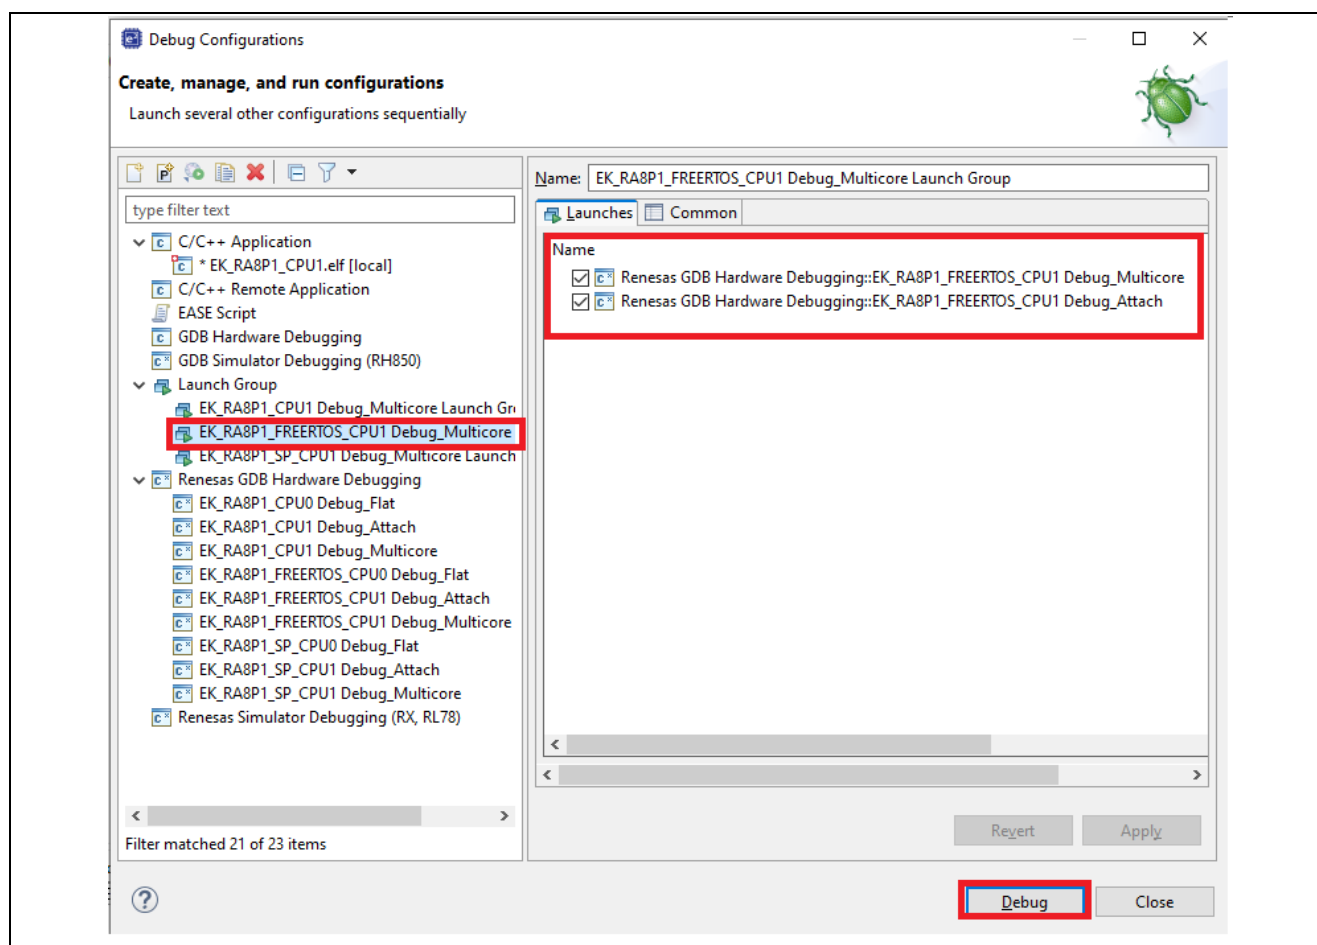

Figure 69. Example of Debug FreeRTOS Dual-Core Example
2. Select “EK_RA8P1_FREERTOS_CPU1 Debug_Multicore Launch Group,” as shown in Figure 69.